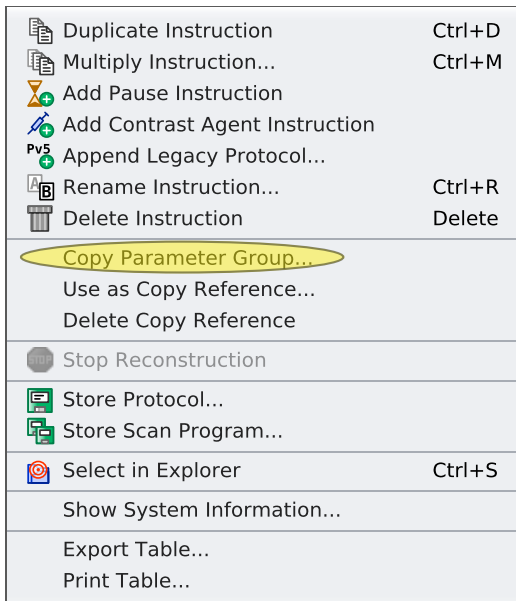

Figure 1.23: Context Menu Examination Card
2. Open the context menu (see [Figure 1.23 \[p 48\]](#)) and invoke **Copy Parameter Group...**